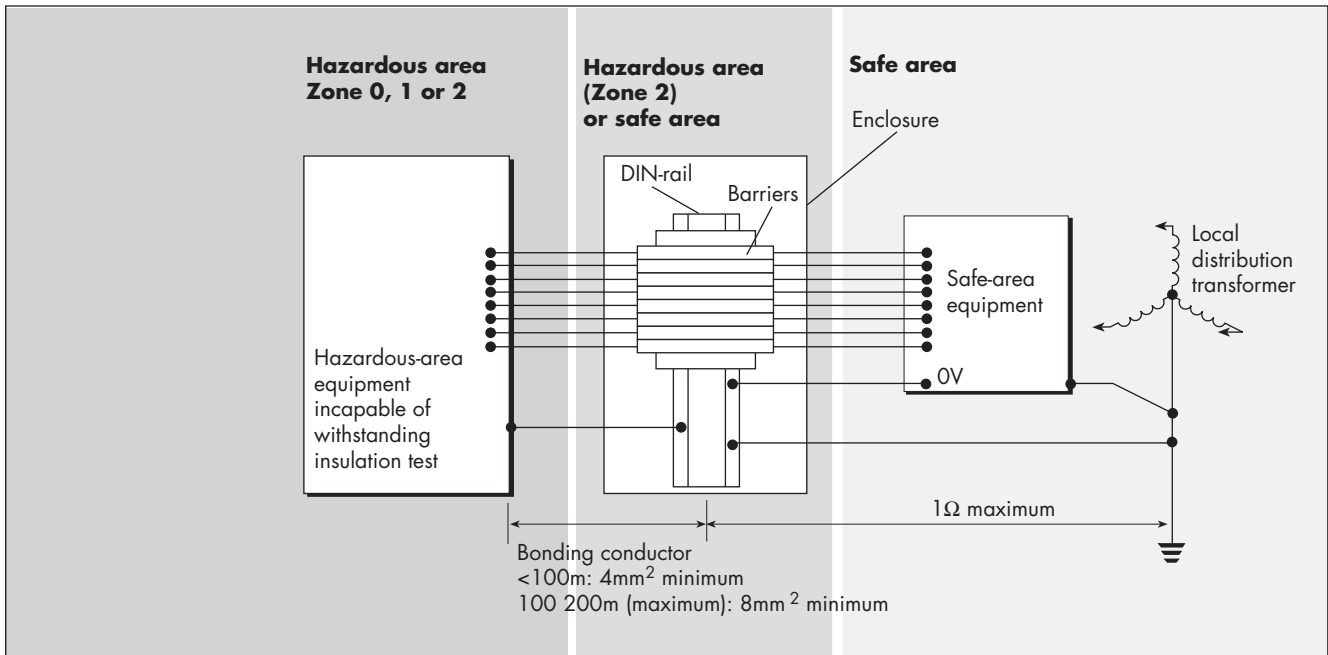

Figure 18: Bonding practice where hazardous-area equipment cannot meet required standards of insulation from earth
- Figure 18 shows the 0V rail of the safe-area equipment returned to the barrier DIN-rail by a separate insulated conductor and the structural earths of any safe-area equipment returned separately to the neutral star-point. This reduces interference problems but is not essential for safety reasons.